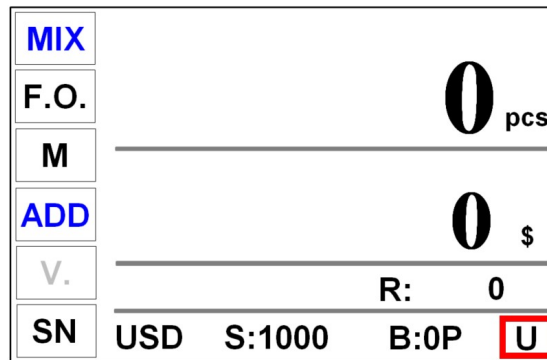

Figure 58
**\*Notes:** Before you collect the images, please make sure the USB flash drive is well inserted. There will be a blue sign of “U” on the bottom right screen corner if the drive is successfully connected, shown as Figure 58.